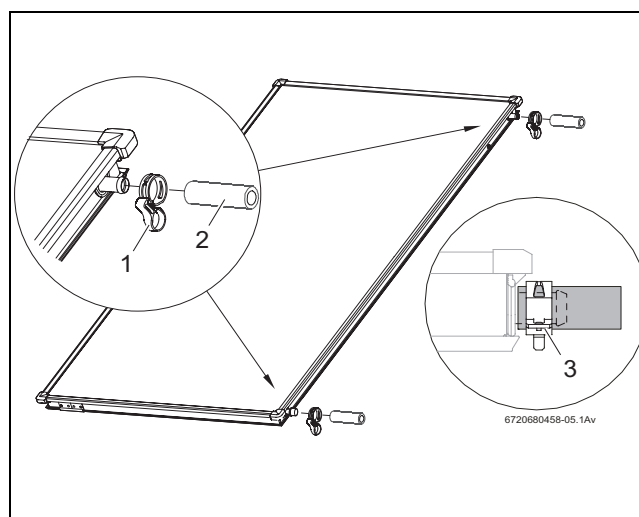

Fig. 36 Pre-assembly of the joining set on the second collector
- Push the 95 mm solar hoses (Fig. 36, [2]) to the hoses on the right side of the second collector and then to all other following collectors.
- Push the hose clips (Fig. 36, [1]) over the solar hose (the second clip secures the connection of the other collector).
- When the hose clip has been correctly fixed, pull the locking ring to secure the connection (Fig. 36, [3]).